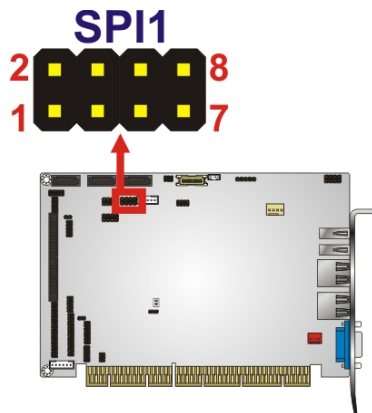

Figure 3-9: Flash SPI ROM Connector Locations
- CN Location:** See **Figure 3-9**